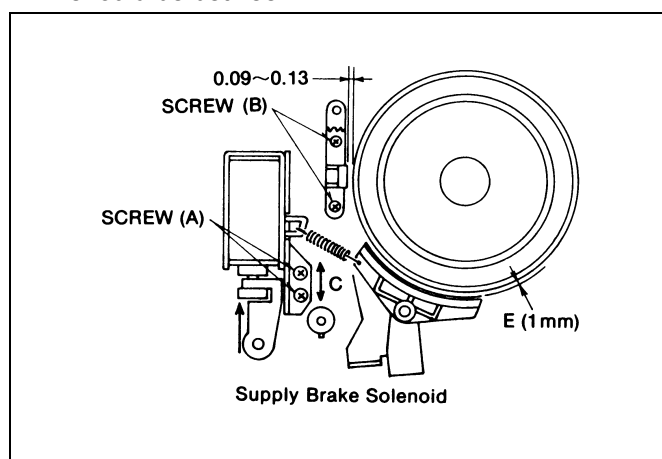
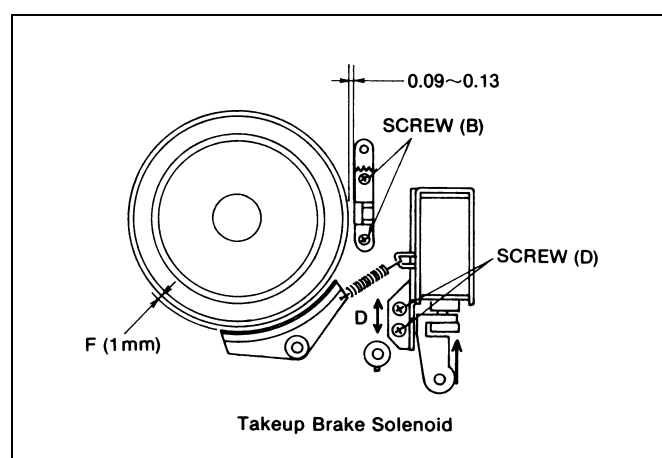

Figure 7-5-2
Figure 7-5-3
1. When moving the spring pin in each brake solenoid plunger in direction (C) and (D) as shown figure 7-5-2 and 7-5-3, observe the clearance (E) between each brake pad and its turntable. This clearance should be between 1mm
2. If not, loosen 2 screws (A) of supply side and (D) of take up side and adjust brake solenoid so that the clearance (E) is within the specification. And tighten 2 screws (A) and (D).
3. Observe the clearance (F) as shown in figure 7-5-3 and make sure that it is within 0.09mm to 0.13mm.
4. If not, loosen 2 screws (B) and clearance (F) is within the specification. And tighten 2 screws (B).